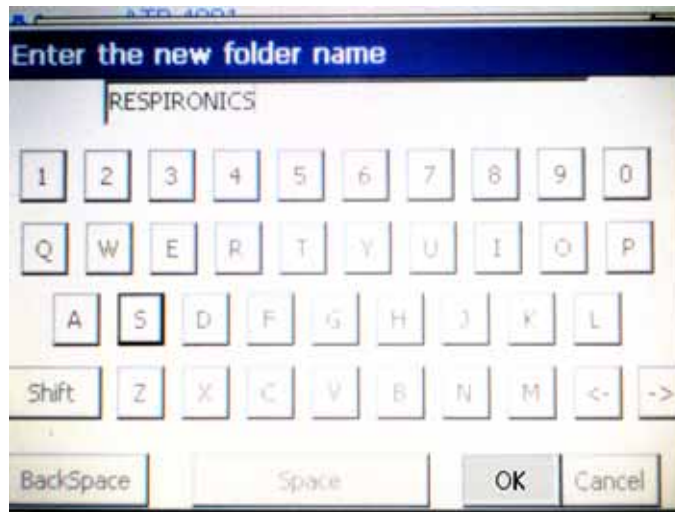

Figure 8-9: New Folder Screen
4. Use the onscreen keyboard to enter **RESPIRONICS** (Figure 8-9), and then touch **OK**.